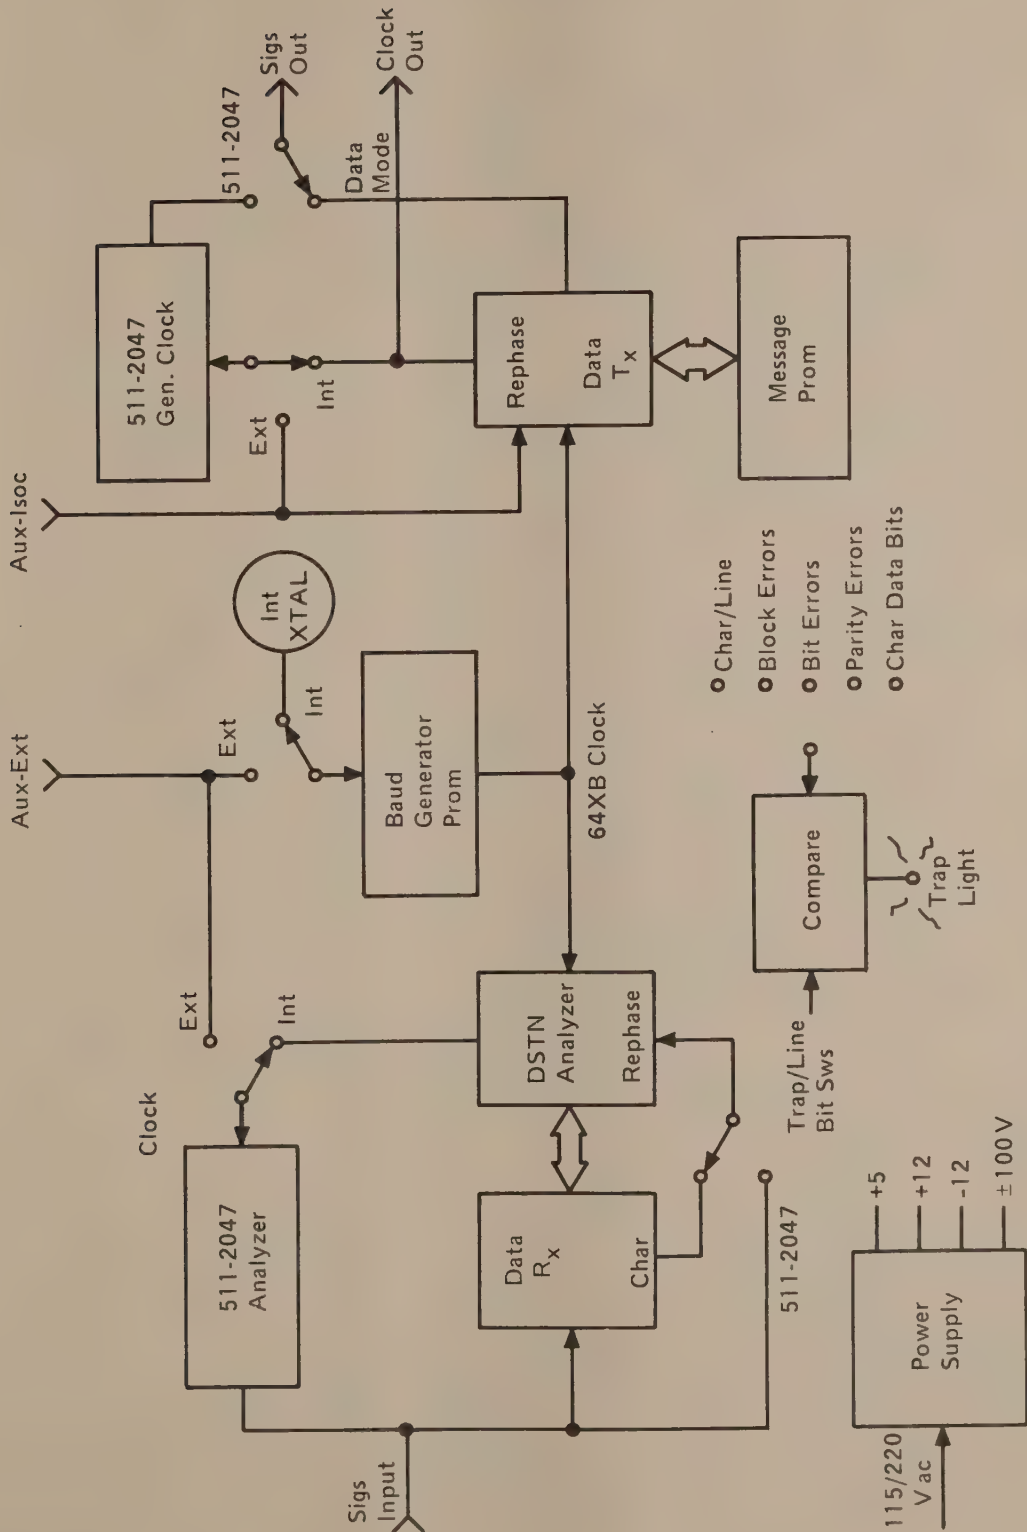

Fig. 6-1—Data TEK 9600 Block Diagram
6.16 This section describes the operation of the basic functions of the DTS. Certain Logic elements are utilized in different ways depending upon the operating mode of the DTS. Figure 6-1 shows an overall block diagram of the logic in the DTS. Data and clock signal paths are shown as they apply to the 511-2047 and the Data modes.
6.25 511-2047 Mode utilizes a separate pseudo-random generator and analyzer, as shown in Figure 6-1. The analyzer is similar to the generator except that the incoming signal is compared to the internal generator to determine the presence of errors. Each complete Block consists of 511 or 2047 bits which are repeated.
6.38 Figure 6-1 shows the clock paths for the Analyzer and Generator. For the normal data mode, the internal bit rate generator supplies clock to the Transmitter, Receiver and Distortion Analyzer.